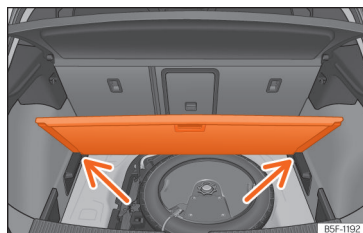

Fig. 183 Variable boot floor: tilted position.
- Rest the floor on its housings »» Fig. 183 (arrows).